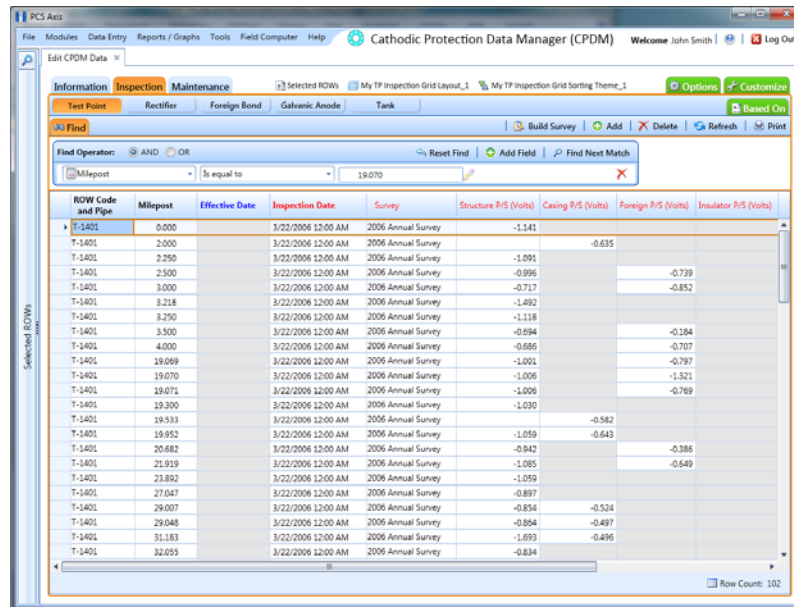

Figure 6-41. Find
- 5 Click the **Find** tab  to open the search properties panel (Figure 6-41, page 209).